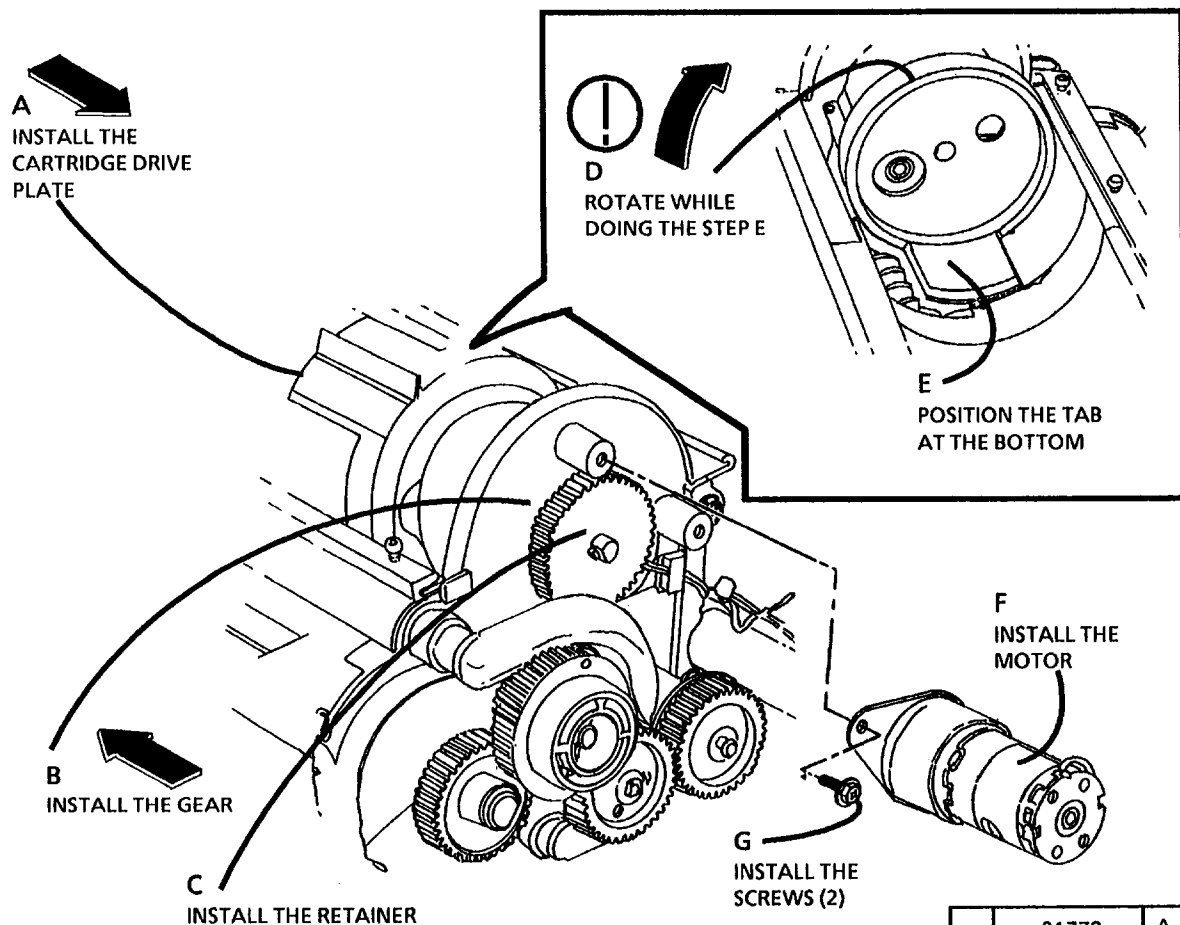

Figure 4. Install the Cartridge Drive Plate
**STEP 3 D:** To avoid damage to the drive plate seal, always rotate the drive plate in the direction shown in Figure 4.
3. (Figure 4): Reinstall the Cartridge Drive Plate.